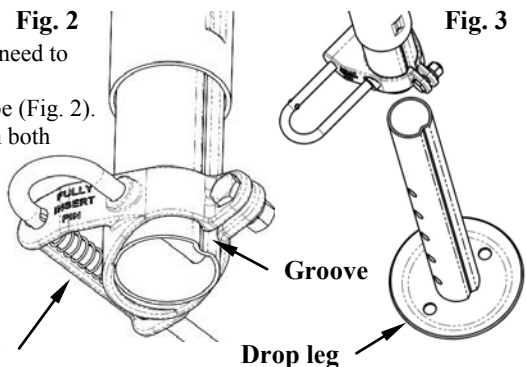

Fig. 2
3. Align grooves of jack tube and plunger pin assembly together and slide over bottom of jack tube (Fig. 2).